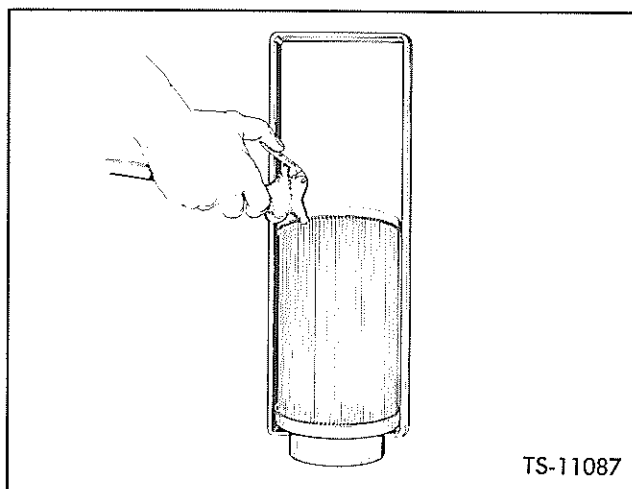

Fig. 33. Air Dry Filter Element and Inspect for Damage
4. Air dry element and relief valve components with filtered low pressure air as shown in Figure 33. Examine general condition of filter ele-